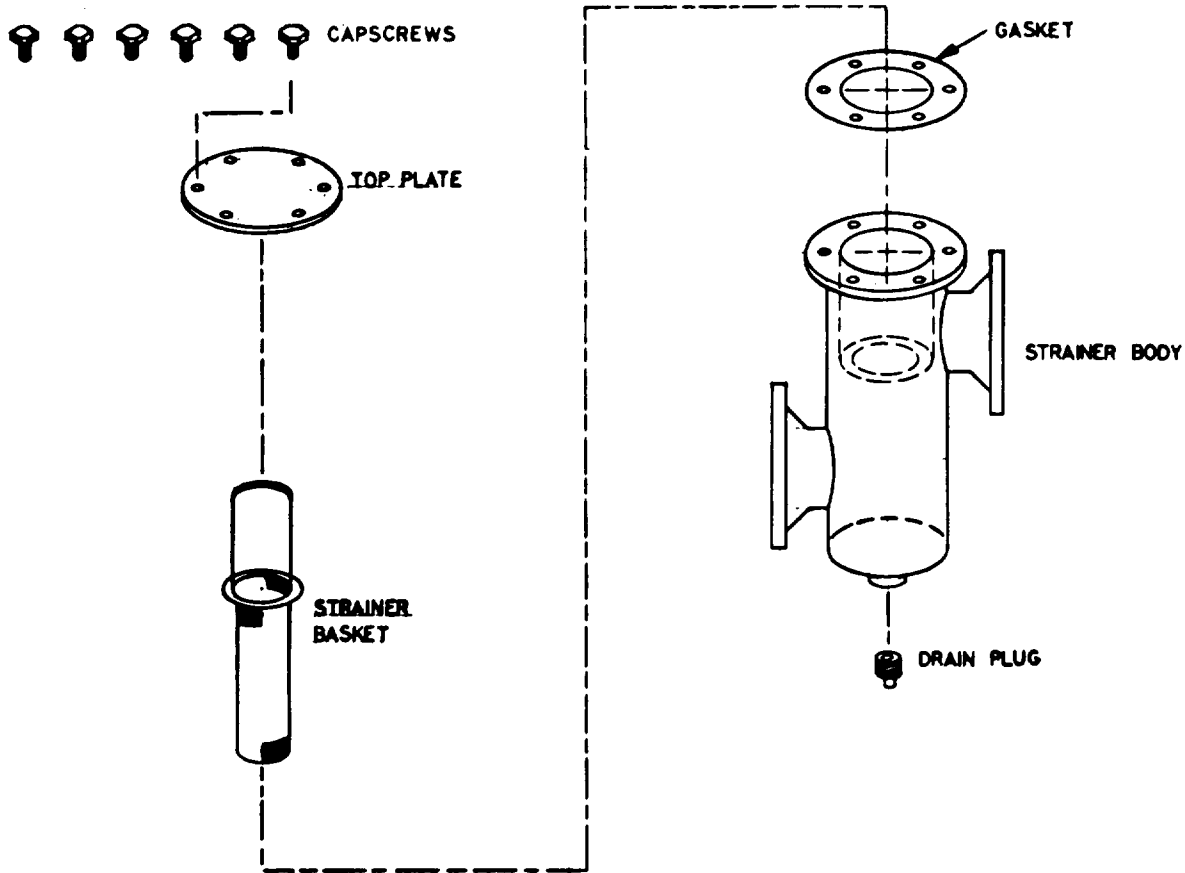

Figure 22. HOT FLUID STRAINER
4. Reference Figure 22 and disassemble strainers.
1. Refer to Figure 22 and assemble strainers.